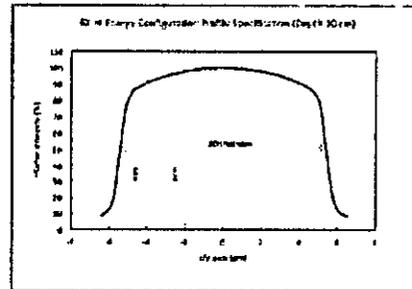

Figure 1: 6X High Intensity energy configuration field intensity profile for a 10 cm x 10 cm field size, measured at a depth of 10 cm.
- ³ Nominal field intensity distributions for high intensity X-ray energies are measured as shown in figures 1 and 2, on the right.
- ⁵ Dose output (MU) is defined as 1 cGy delivered to tissue-equivalent material at D_{max} and 100 cm SSD, with a 10 cm x 10 cm field size. Measurement of dose output under conditions different than those defined herein may result in a higher or lower dose output than specified.